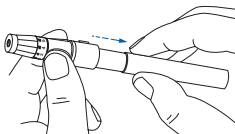

Figure 23
**STEP 6:** Cock the Lancing Device. Slide the ejection/cocking control back until it clicks. If it does not click, the Lancing Device may have been cocked when the lancet was inserted. See Figure 23.